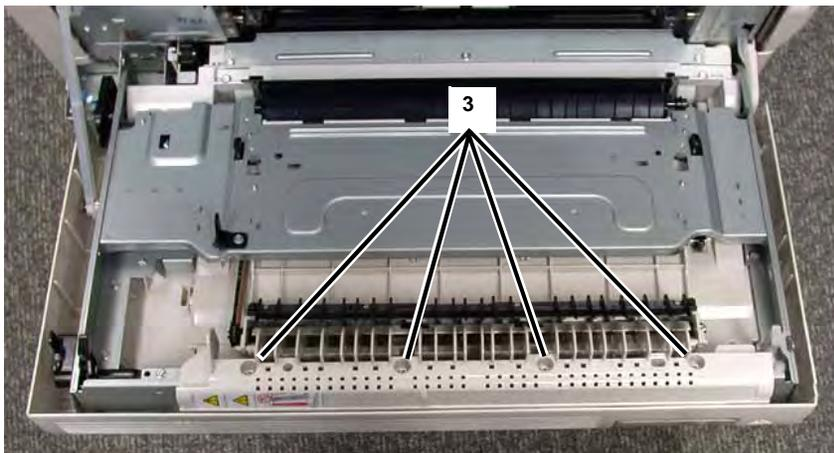

Figure 2 Removing Screws
3. Remove the Left Hand Chute Cover (4 Screws) (Figure 2).